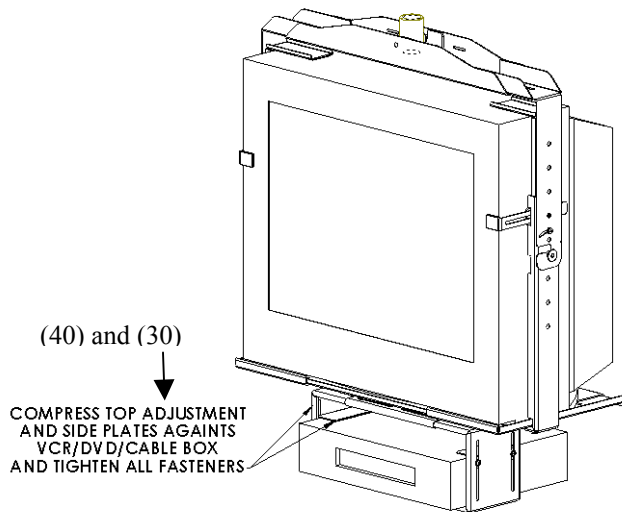

Figure 8. Make Adjustments to Unit
2. Adjust the side plates (30) and adjustment plates (40) as needed to secure your VCR/DVD safely in the CTA-100. See Figure 8.
3. Tighten all cap screws (60).